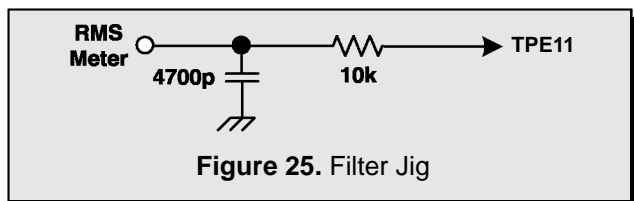

Figure 25. Filter Jig
1. Connect an RMS meter with filter jig as shown in Fig. 25.